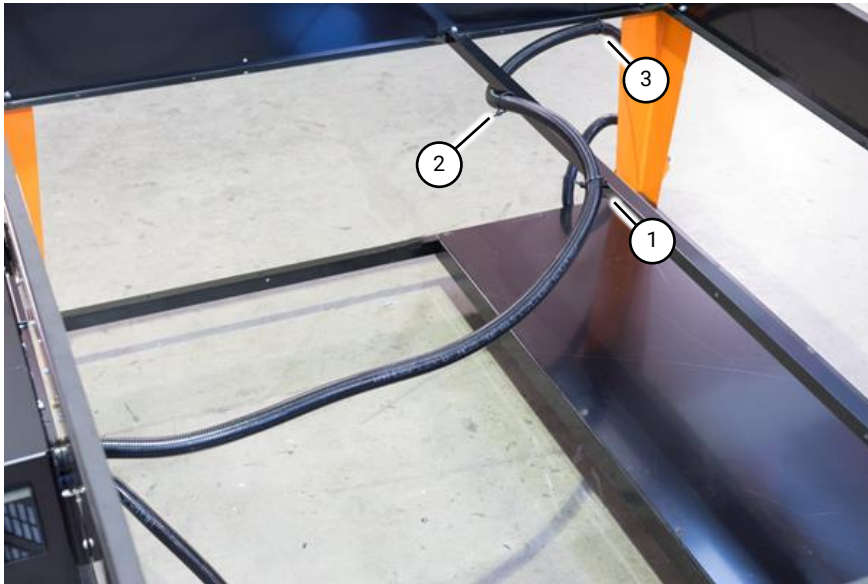

Fig 9 Securing the loom
1. Once the control box is mounted, run the emergency stop/control loom to either the front left or front right corner of the table depending on which side you wish to mount the laptop stand and secure using cable ties supplied (Fig 9 (1), (2) & (3))